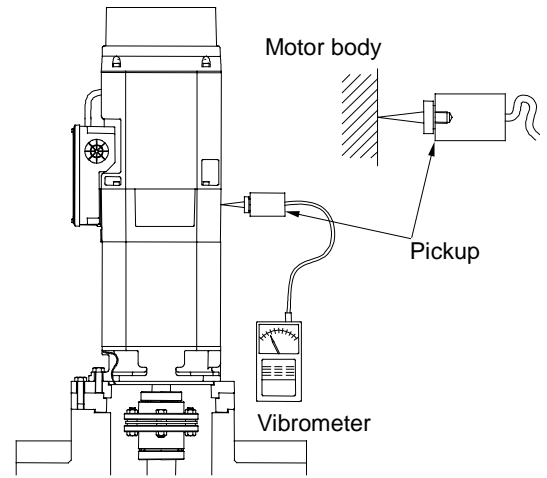

Fig. 3 Measuring vibration acceleration
- <2> Check whether the vibration acceleration of the motor turning at the maximum speed exceeds 0.5 G. (See Fig. 3.)